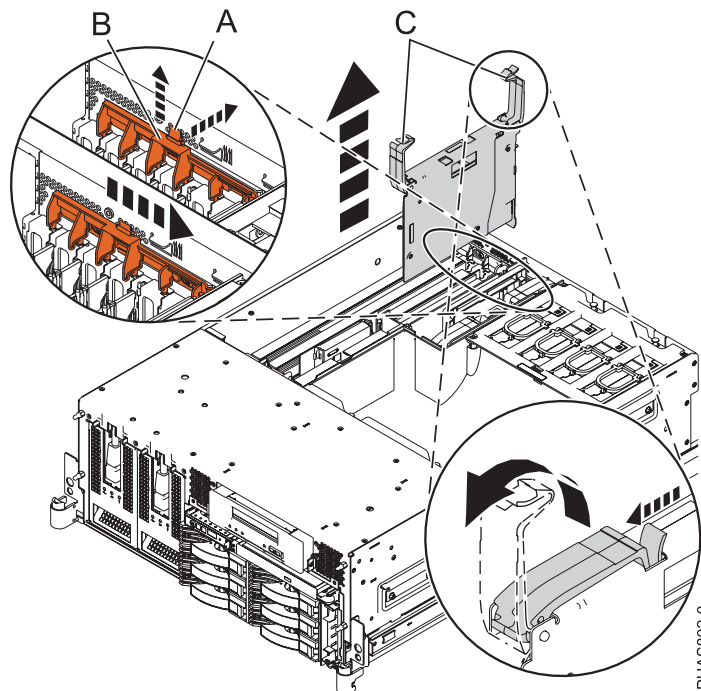

Figure 8. Adapter removal from a rack-mounted system (8203-E4A, 8261-E4S, or 9408-M25)
- For model 8203-E4A or 9408-M25, see Figure 8. Remove the existing adapter assembly by sliding the retainers (A) into the open position and pulling up (B). Unlatch the blue locking latches (B) on the adapter assembly by pushing them together and pulling them up into the open position, and then lift the adapter out of the system.